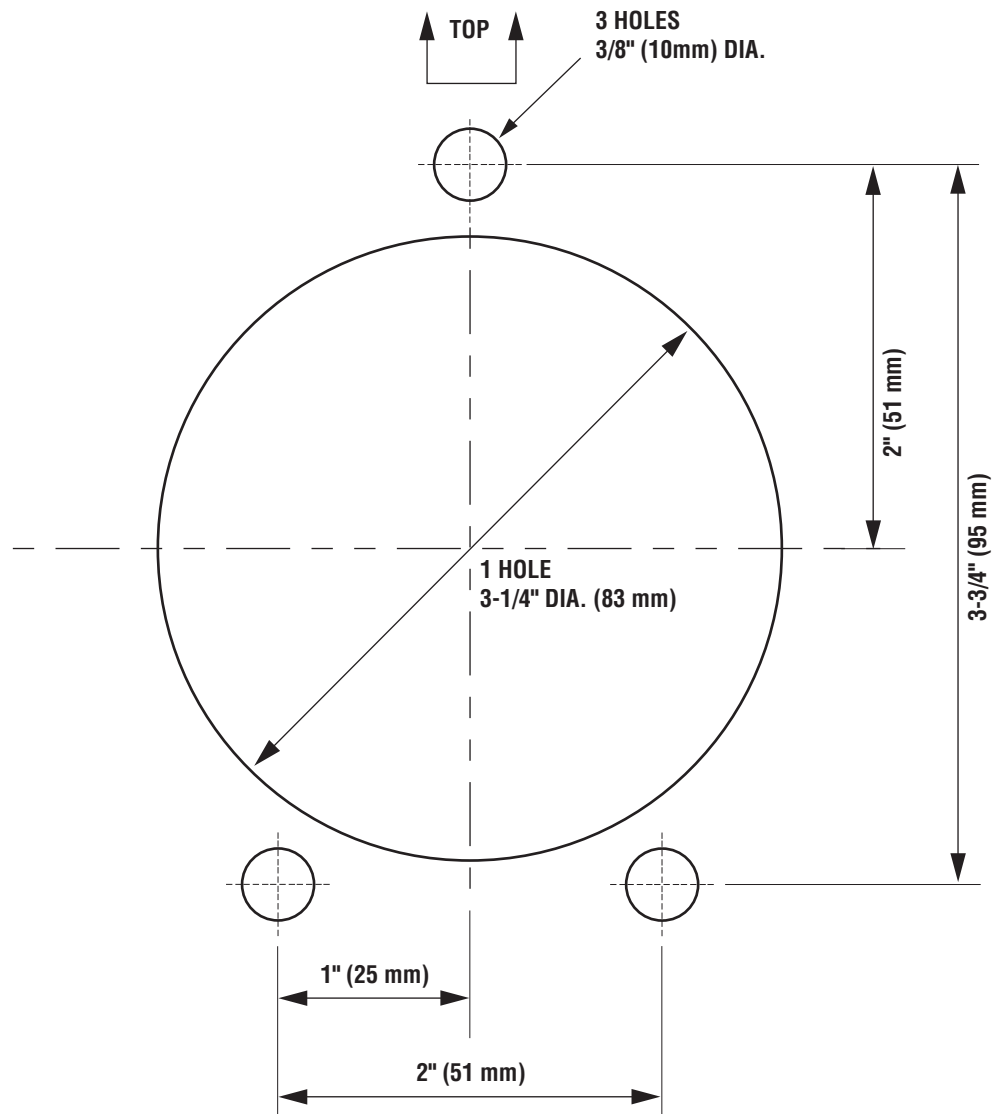

Figure 6.
Locate the approximate position for the bezel on the console or dashboard. Using the mounting template provided (figure 6) mark the location of the holes. Drill three (3) holes 3/8" diameter and one (1) 3-1/4" diameter hole through the dash.